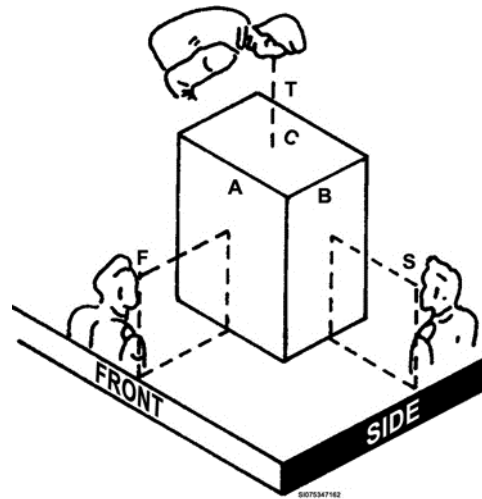

Figure 2-40. View of a subject.
A print is a copy of a drawing that includes dimensions of the structure or equipment. A print or isometric view is usually made up of three views: the top view, the front view, and the side or end views. These views are composed of lines and symbols that are visible when the structure is viewed from these particular positions, as shown in figure 2-40. For example, in figure 2-40 the front (F) detail (A) illustrates how an object would appear to an observer who views it from the front. The side (S) detail (B) shows how the object appears when viewed from the side; the top (T) detail (C) shows how it would look from the top.